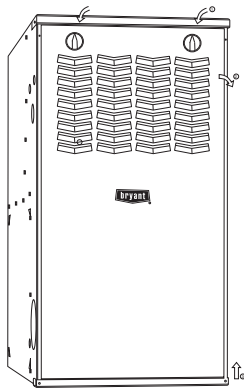

Fig. 6 – Remove Furnace Door
4. Remove the outer door by loosening the thumbscrew and pulling the door forward, see Fig. 6.
- Remove outer furnace door, see Fig. 6.